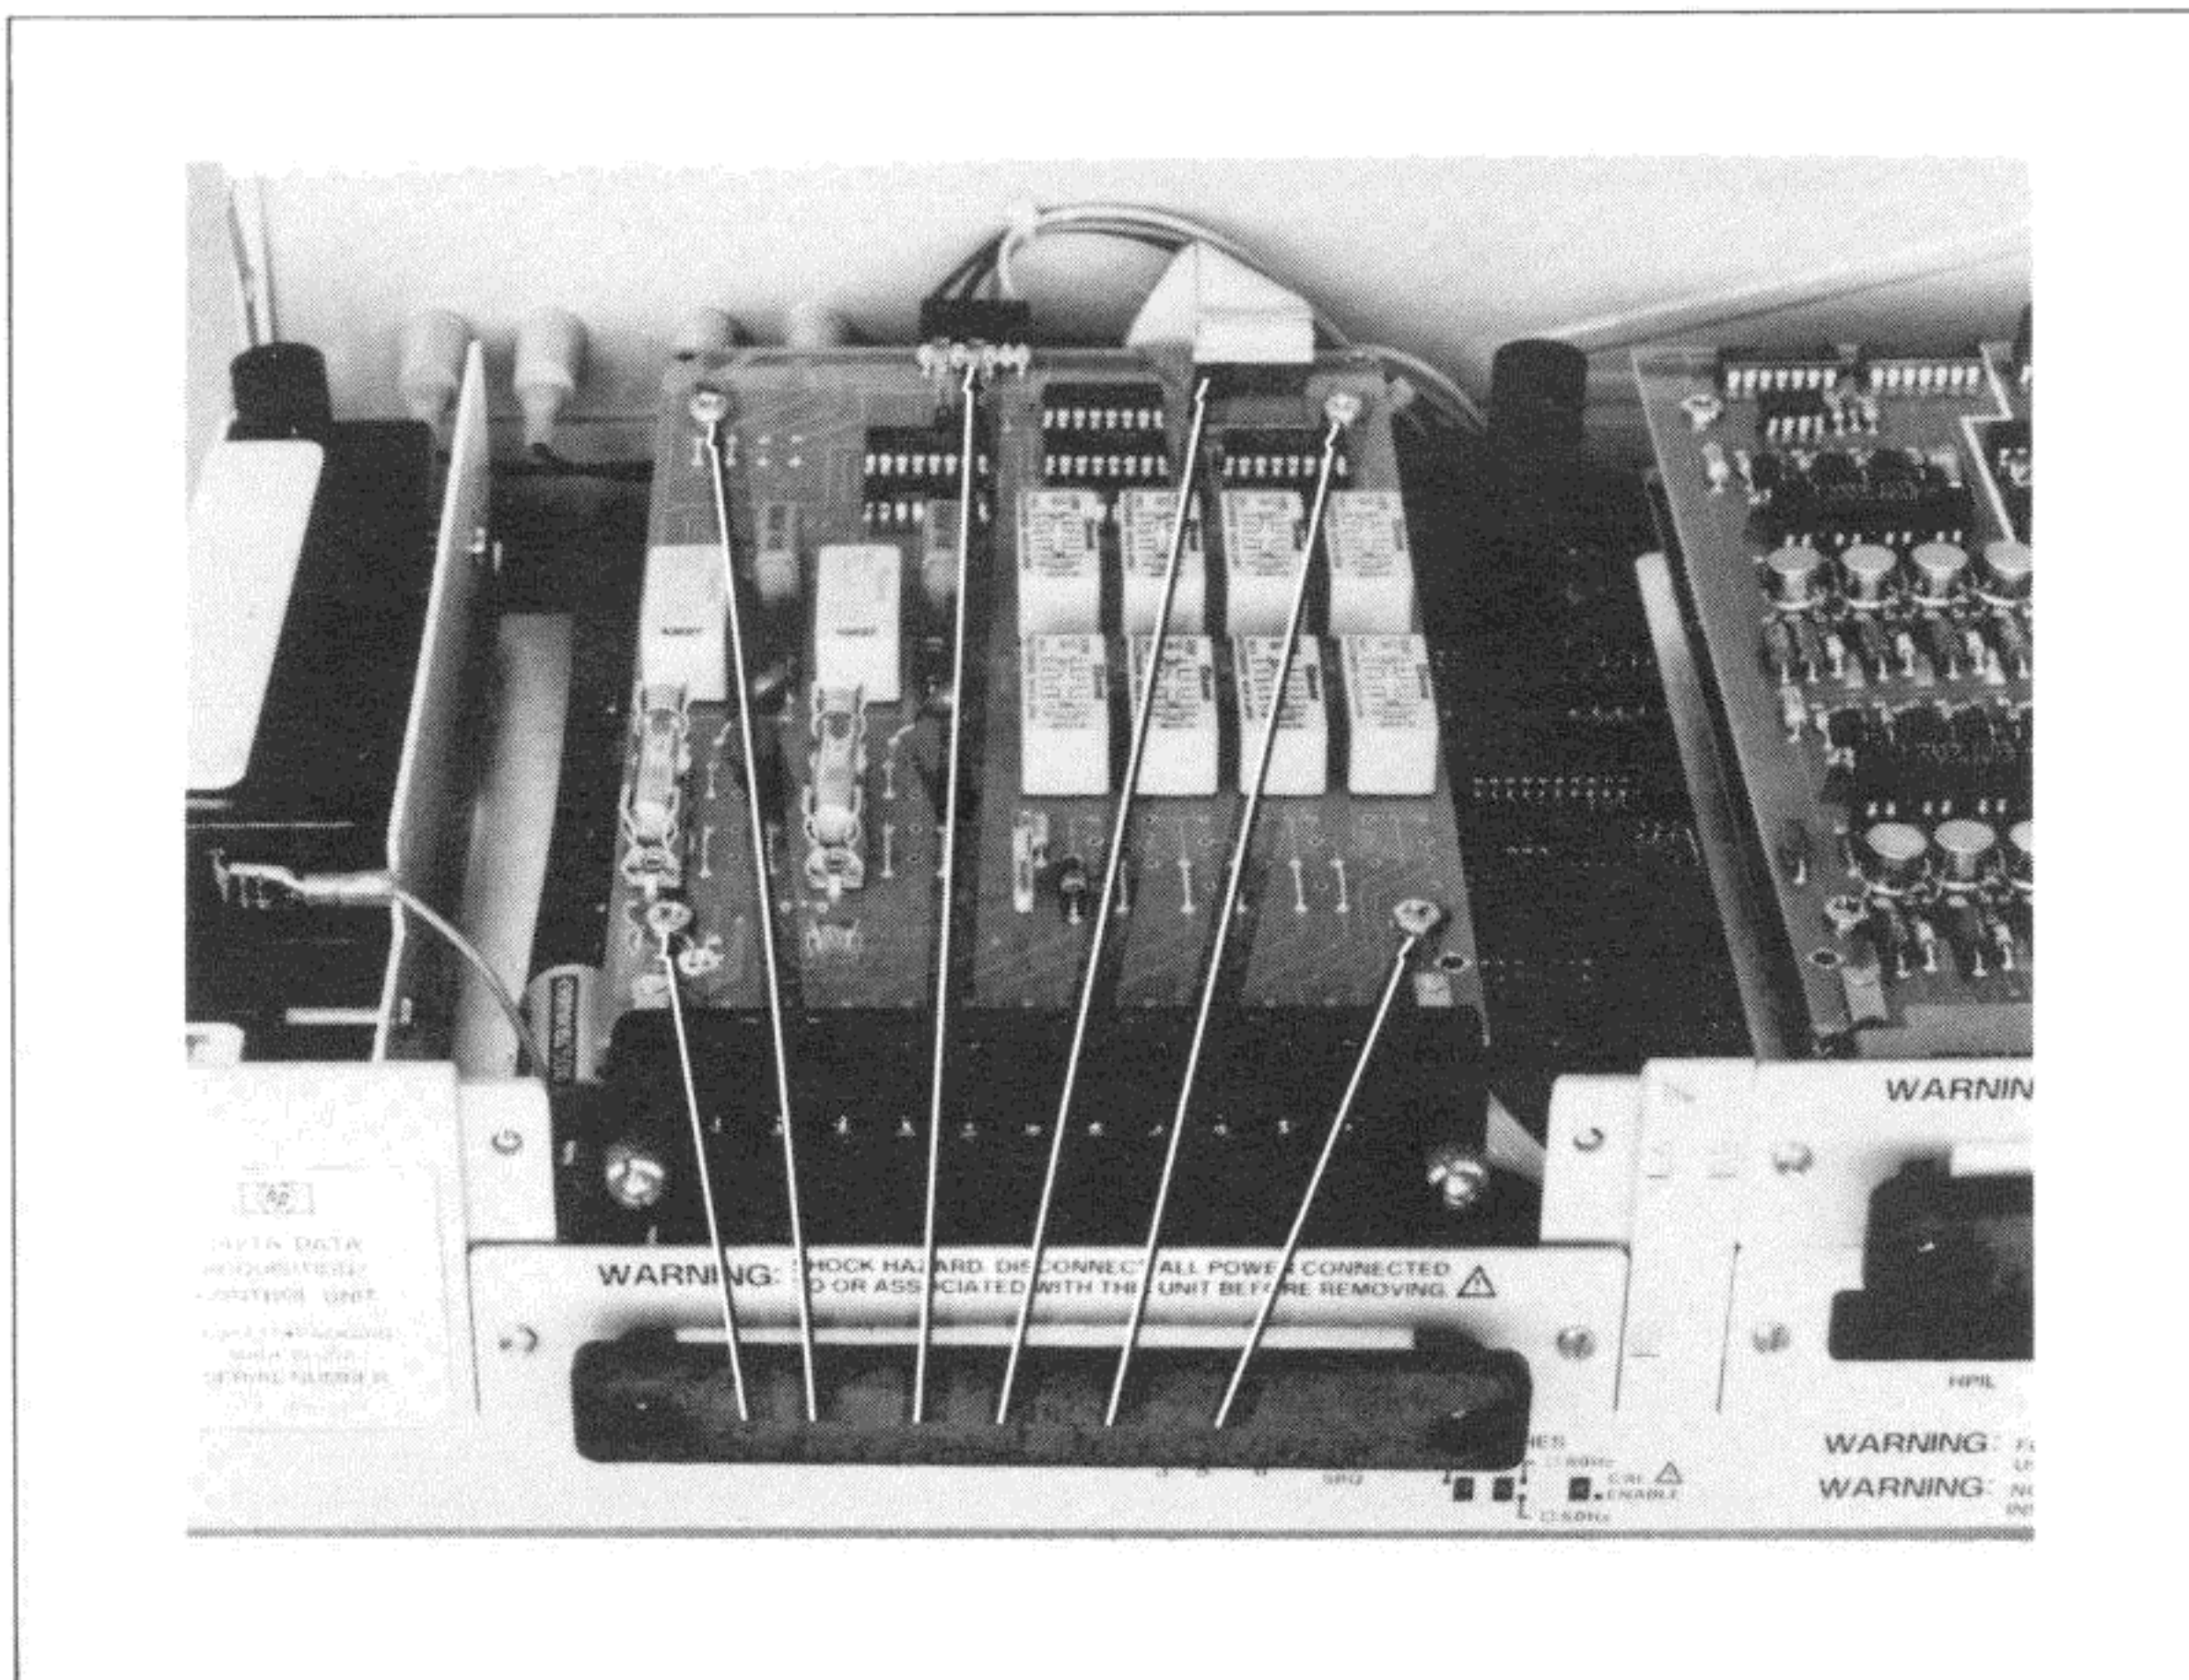

Figure 2-2-4. Unplug Option Cable(s) and Remove Option Screws
- a. Refer to Figure 2-2-4 and unplug the ribbon cable connector from the option in slot 1. Lift the connector straight up to avoid bending any pins. If the option is a Multiplexer Assembly, also unplug the 4-wire VM input cable. If the option is a Digital I/O or Breadboard Assembly, it will not have the 4-wire VM input cable.
- a. Refer to Figure 2-2-4 and unplug the ribbon cable connector from the option in slot 0. Lift the connector straight up to avoid bending any pins. If the option is a Multiplexer Assembly, also unplug the 4-wire VM input cable. If the option is a Digital I/O or Breadboard Assembly, it will not have the 4-wire VM input cable.
a. Refer to Figure 2-2-4 and unplug the ribbon cable connector from the option in slot 2. Lift the connector straight up to avoid bending any pins. If the option is a Multiplexer Assembly, also unplug the 4-wire VM input cable. If the option is a Digital I/O or Breadboard Assembly, it will not have the 4-wire VM input cable.